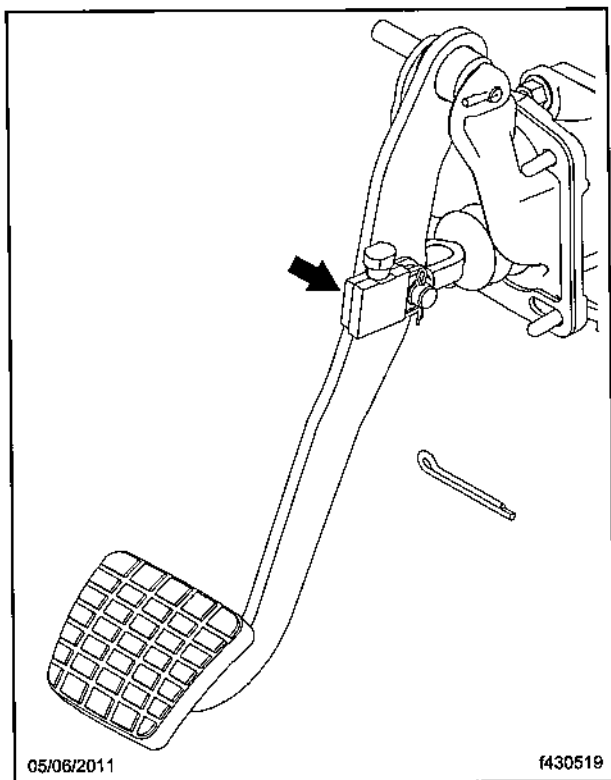
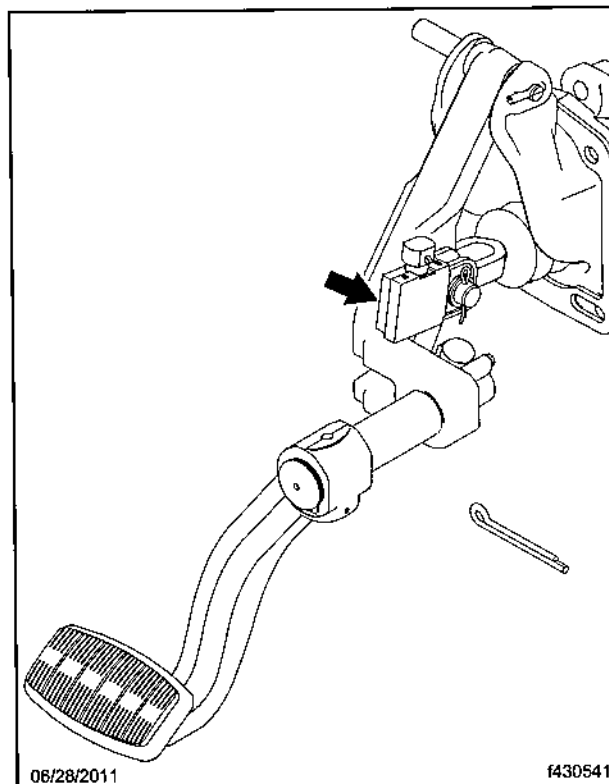

Fig. 1, Brake Switch Location, Fixed Brake Pedal
Fig. 2, Brake Switch Location, Adjustable Brake Pedal
3. Determine whether the brake pedal is fixed or adjustable. See Fig. 1 and Fig. 2.
1. Locate the brake switch on the brake pedal. See Fig. 1 for location on a fixed brake pedal. See Fig. 2 for the location on an adjustable brake pedal.